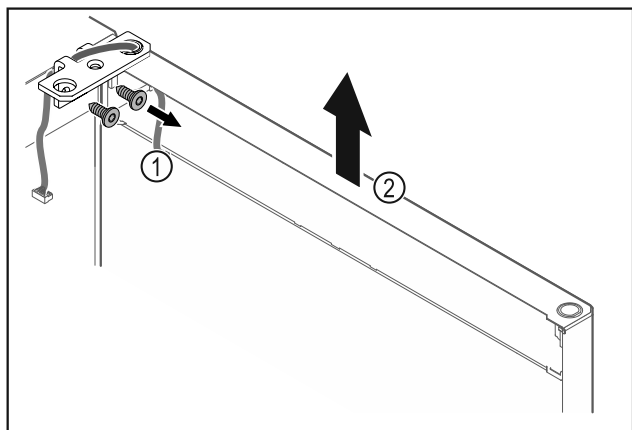

Fig. 17
- Unscrew the hinge Fig. 17 (1).
- Lift the door with the hinge straight up by Fig. 17 (2) roughly 200 mm and take it off.